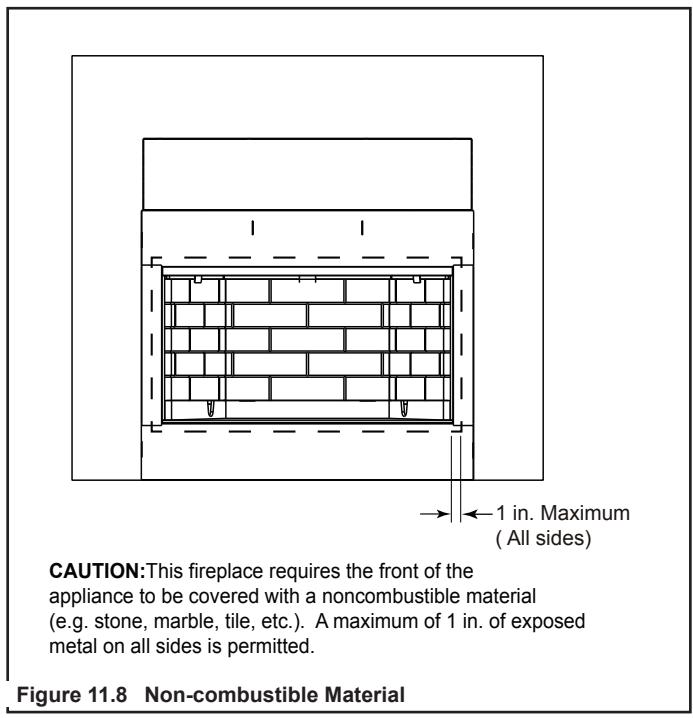

Figure 11.8 Non-combustible Material
- Only non-combustible materials may be used to cover the metal fireplace front. See Figure 11.8.